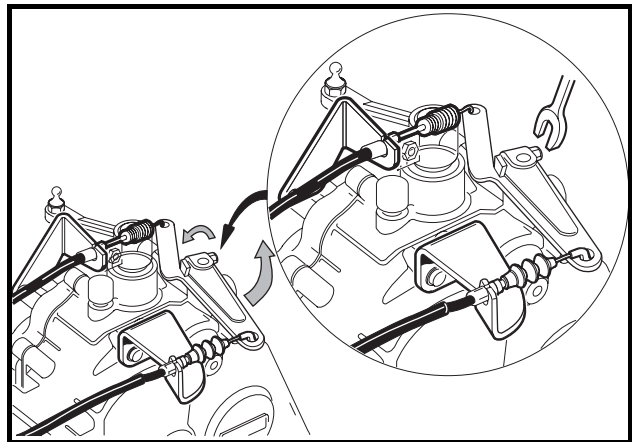

Figure 16-39 Governor Arm
9. Install governor lever arm on governor shaft (**Figure 16-39, Page 16-17**).
- 9.1. With the governor lever arm loose on the governor shaft, turn the governor arm shaft counterclockwise until it stops. Then pull the governor lever arm rearward until the carburetor throttle is in the “wide open throttle” (WOT) position (**Figure 16-39, Page 16-17**).
- 9.2. While holding the arm and shaft in the fully counterclockwise position, tighten the governor arm lever nut to 35 in-lb (4.0 N·m) (**Figure 16-39, Page 16-17**).